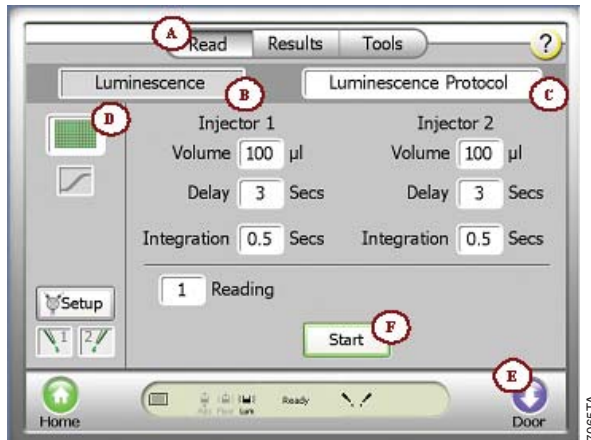

Figure 12. The “Read” screen of the Instrument Control screen. Use this screen to set up a luminescence run.
1. From the Home screen, touch the “Instrument Control button” and then the “Read” button. See Figure 12, A.
2. Toggle the Detection Mode to Luminescence. See Figure 12, B.
3. Touch the “Luminescence Protocol” button to select a protocol or modify the displayed parameters. See Figure 12, C.
4. Touch the “Plate” button and select the wells to be read. Green is selected and gray is deselected. See Figure 12, D.
5. Touch the “Door” button to open the instrument door. See Figure 12, E.
8. Touch the “Start” button. See Figure 12, F.